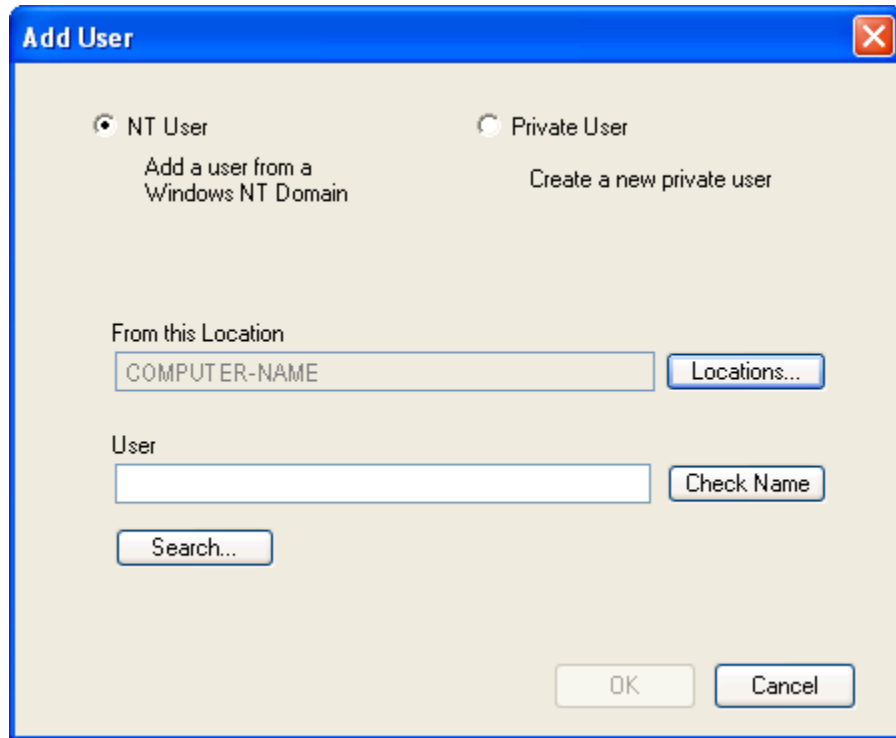

Figure 40 - Add User Window (NT)
2. The **Add User** window (Figure 40) appears. The **NT User** option button is selected by default. This will allow the addition of a user from a Windows NT Domain.
2. The **Add User** window (Figure 40) appears.